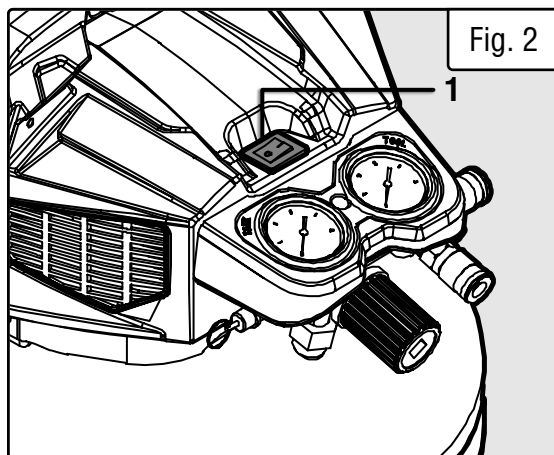

Fig. 2
1. Turn the power switch (Fig. 2 - 1) to the OFF position and unplug the power cord (Fig. 2 - 2).